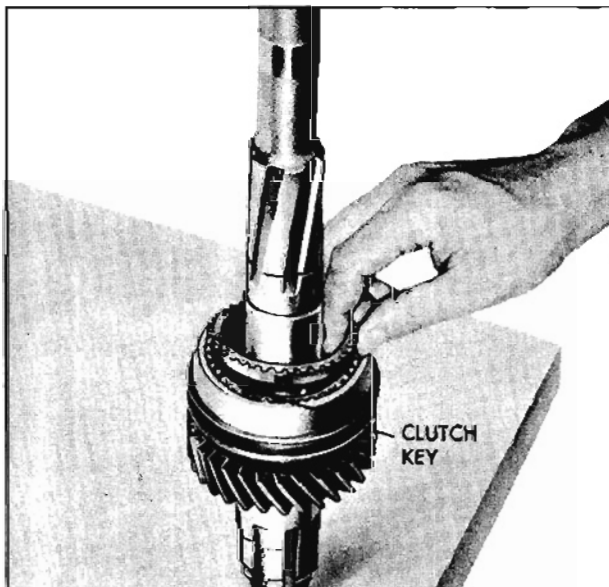

Fig. 7-217 Installing Synchronizing Ring
2. Install 1-2 synchronizer clutch assembly to mainshaft (sliding clutch sleeve taper toward the rear, hub to the front); together with a synchronizing ring on either side so their keyways line up with the clutch keys. (Fig. 7-217) Install larger of two synchronizer retaining snap rings to mainshaft with ends of snap ring behind spline teeth.